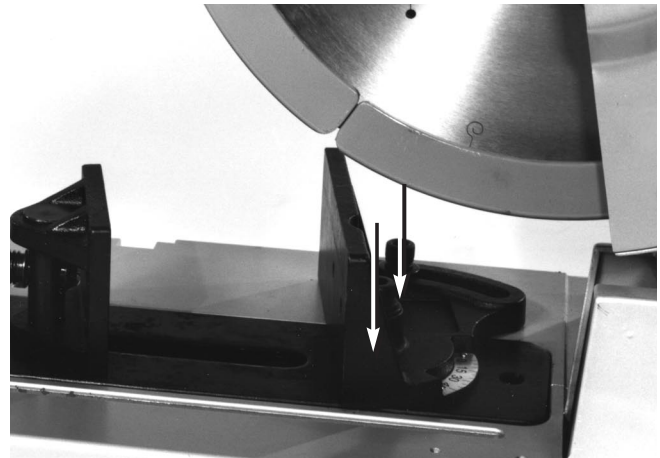

Figure 6
- b.) For 45°, loosen the two bolts of the fence guide for the desired angle and retighten. Then, place the workpiece and tighten the vise firmly. (Figure 6)